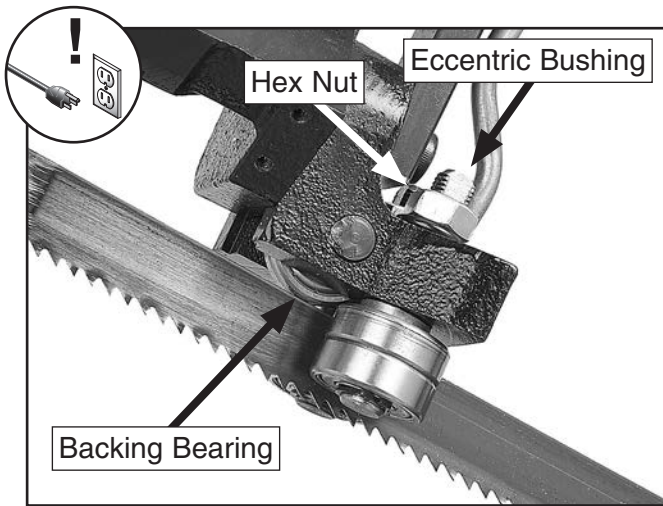

Figure 73. Guide bearing components.
- Loosen hex nuts that secure eccentric bushings attached to guide bearings (see **Figure 73**).